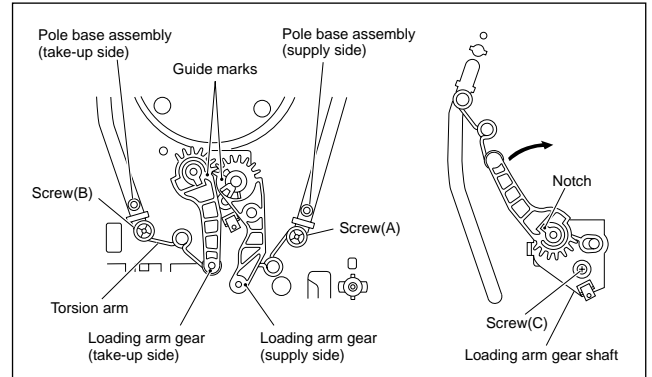
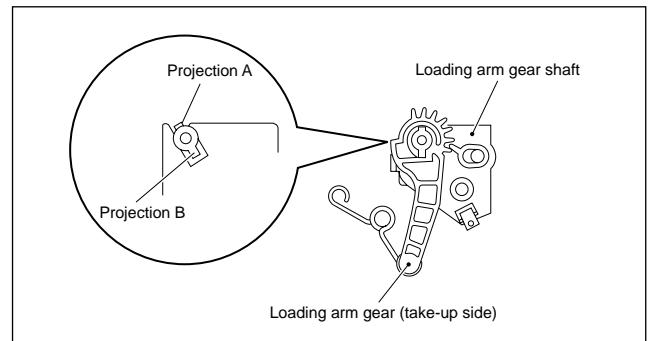

Fig. 2-2-16a
Fig. 2-2-16b
- (1) Remove the loading arm gear (supply side) by loosening the screw (A). (See Fig. 2-2-16a.)
- (2) Remove the screw (B) and remove the torsion arm from the pole base assembly (take-up side). (See Fig.2-2-16a.)
- (3) Turn the loading arm gear (take-up side) clockwise so that the notch of the loading arm gear (take-up side) is in alignment with the projection of the loading arm gear shaft and lift it. Likewise, turn the loading arm counterclockwise so that the notch is in alignment with the projection and remove the loading arm gear (take-up side). (See Fig.2-2-16a and Fig. 2-2-16b.)
- (4) When removing the loading arm gear shaft, be sure of first removing the screw retaining the drum assembly (on the back side of the loading arm gear shaft). Then remove the screw (C) and remove the loading arm gear shaft by sliding it.
- (1) Align the notch of the loading arm gear (take-up side) to the projection B of the loading arm gear shaft and slip it over. Then rotate it clockwise for alignment with the projection A and slip it down to the bottom. (See Fig.2-2-16b.)
- (2) Then turn the loading arm gear (take-up side) counterclockwise. Hang the torsion arm on the pole base assembly (take-up side) and tighten the screw (B).
- (3) Install the loading arm gear (supply side) so that the guide mark of the loading arm gear (take-up side) is in alignment with the guide mark of the loading arm gear (supply side). Then hang the torsion arm on the pole base assembly (supply side) and tighten the screw (A). (See Fig.2-2-16a.)